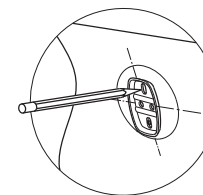
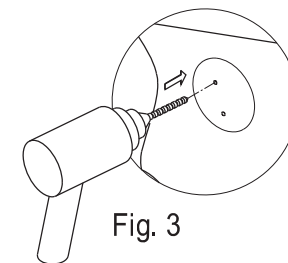

Fig. 2
Fig. 3
- Step 3. Place the mounting plate in the center of the pencil outline you just made and mark the location of the mounting screws (fig 2). Drill holes at the marked locations (fig 3).